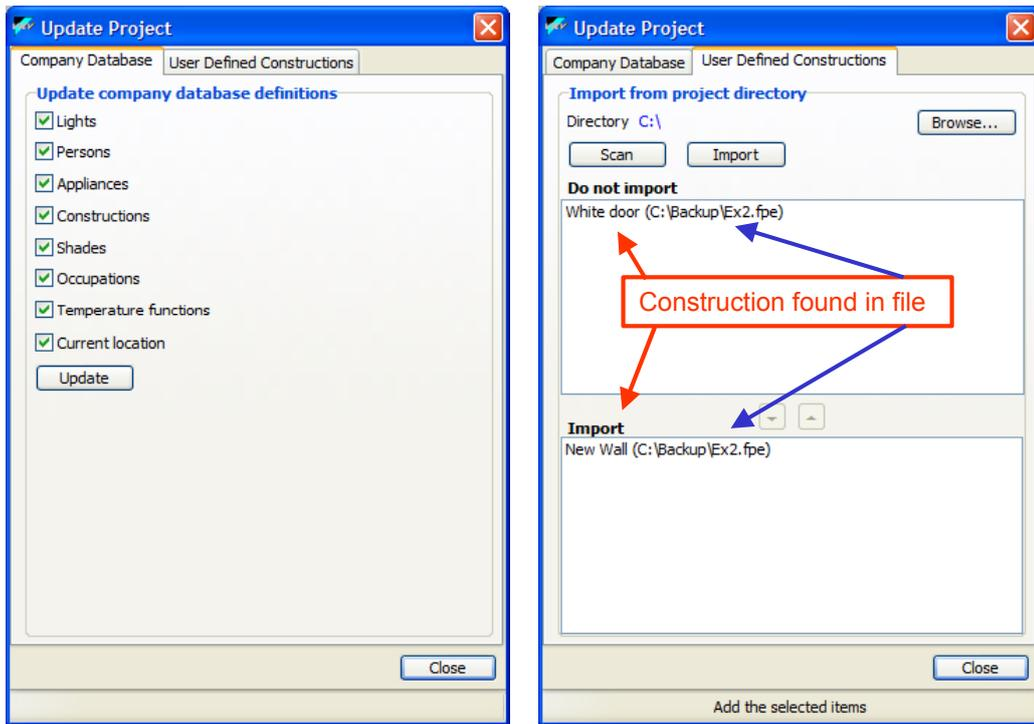

Figure 188: Updating project data from different sources
The "*Update Definitions*" command in the Database menu brings up a window as shown in Figure 188. It contains two tabs:
1. The "*Company Database*" tab (see Figure 188 at the left) allows copying the selected data from the company database in the VRVPro executable program into your project. From then on, you can use those new definitions. Note, for example, that loading the "*current location*" resets all parameters used to produce a climate file (see section 5.8) to the original data.